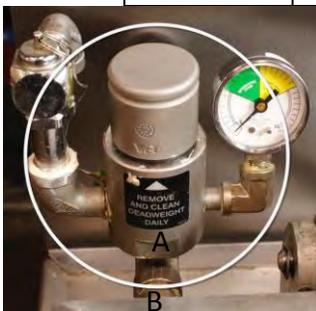

Figure 2.
6. Clean from the outlet in the fry pot to the deadweight valve (figure 2.)